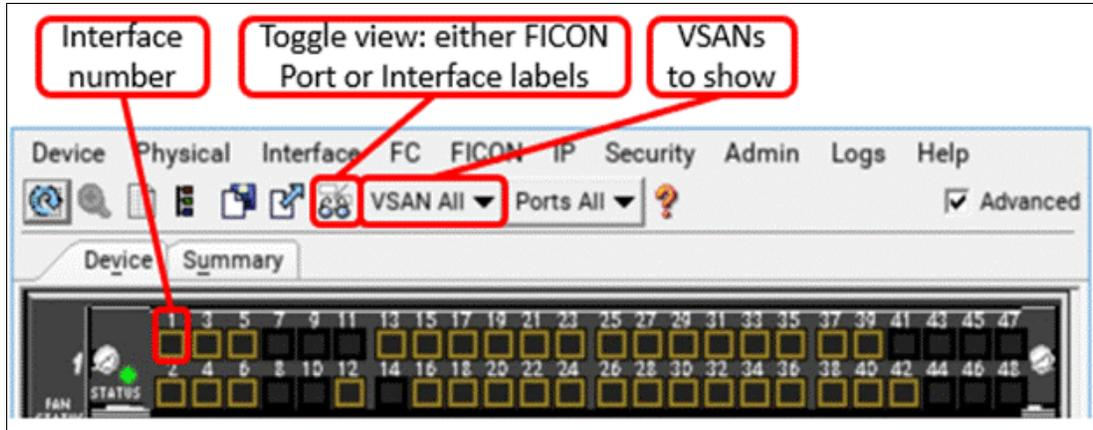

Figure 5-37 Default visualization from Device Manager with interface labels
To facilitate daily operations, Datacenter Network Manager and its embedded Device Manager (DM) can toggle the display between interface numbers and FICON Port Numbers. The default visualization with interface labels is shown in Figure 5-37.